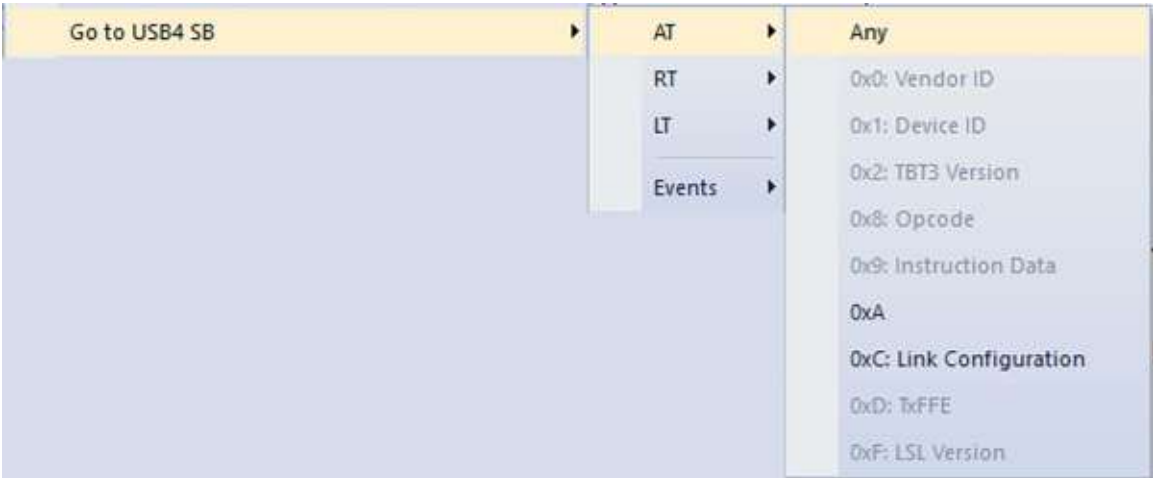

Figure 7.51: Go to USB4: AT
- ☐ AT: See Figure 7.51 on page 487.